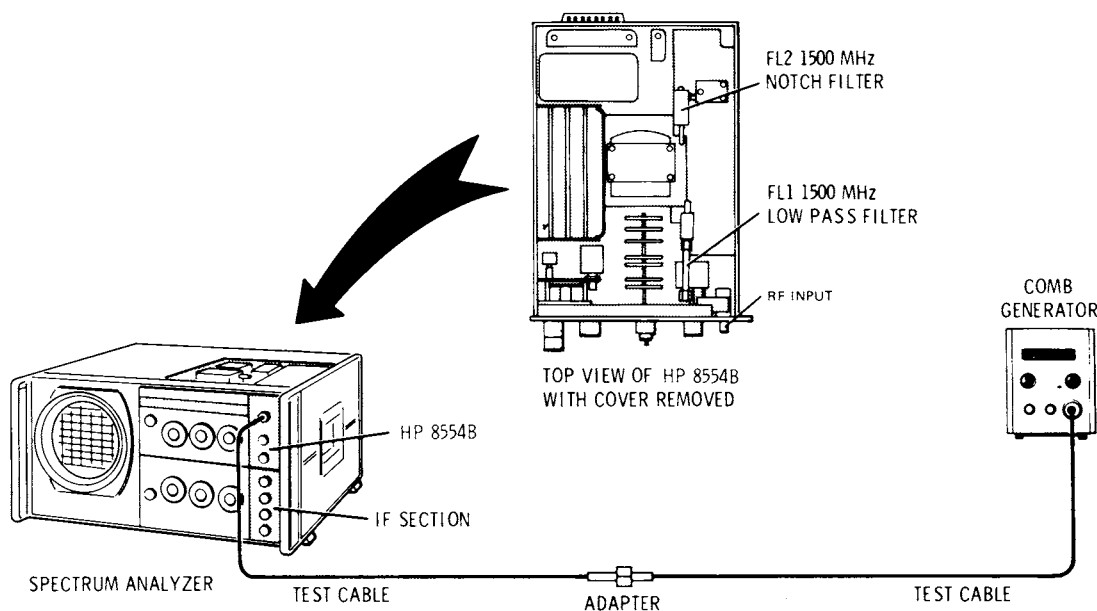

Figure 5-9. 1500 MHz Notch Filter and Low Pass Filter Test Setup
- 3. Connect equipment as shown in Figure 5-9 and make the following control settings: